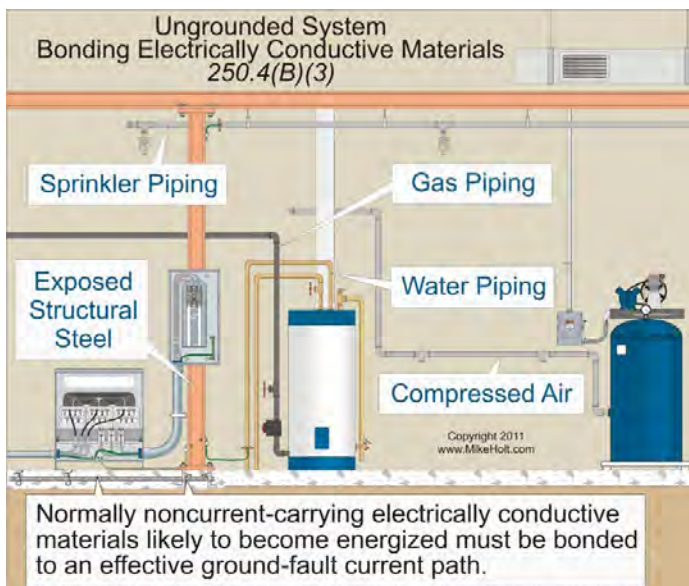

Figure 250–25
(3) Bonding Conductive Materials. Conductive materials such as metal water piping systems, metal sprinkler piping, metal gas piping, and other metal-piping systems, as well as exposed structural steel members likely to become energized must be bonded together in a manner that creates a low-impedance fault current path that's capable of carrying the maximum fault current likely to be imposed on it. **Figure 250–25**